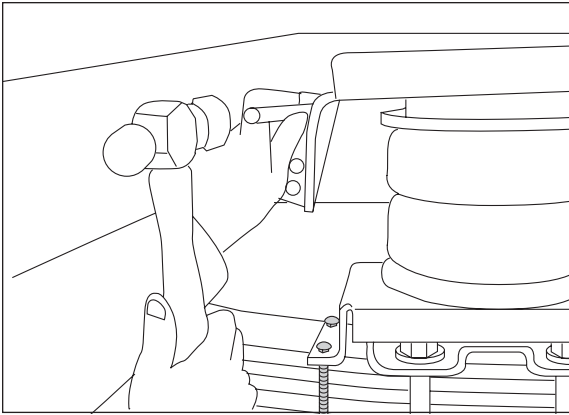

Figure 6
5. Clamp the upper bracket to the frame rail with a C-clamp or welding clamp and center punch one mounting hole (Figure 6).